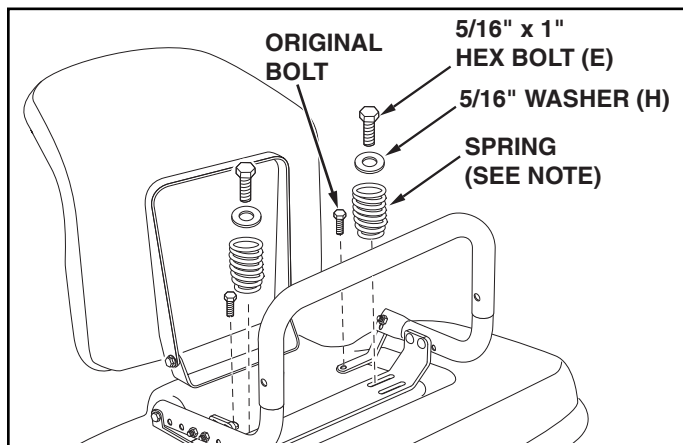

FIGURE 4
STEP 4: (SEE FIGURE 4)
- Attach the base bracket and the seat springs to the rear holes in the fender using the new 5/16" x 1" bolts (E) and 5/16" flat washers (H) supplied with the Sun shade. If seat springs were mounted to front holes, see note below. **Do not tighten completely.**